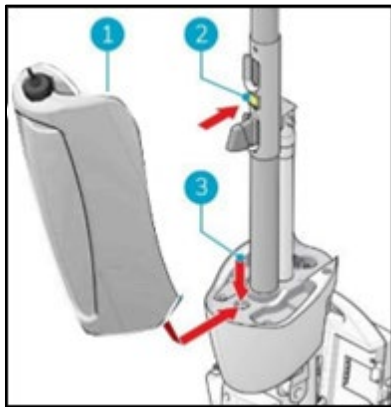

figure 35.
14. Put the bottom of the recovery tank (Figure 35, pos 1 and pos 3) on the front of the i-mop® XL
15. Push the top of the tank into place until you hear a "click" sound, the magnet (Figure 35, pos 2) will lock the recovery tank into place.